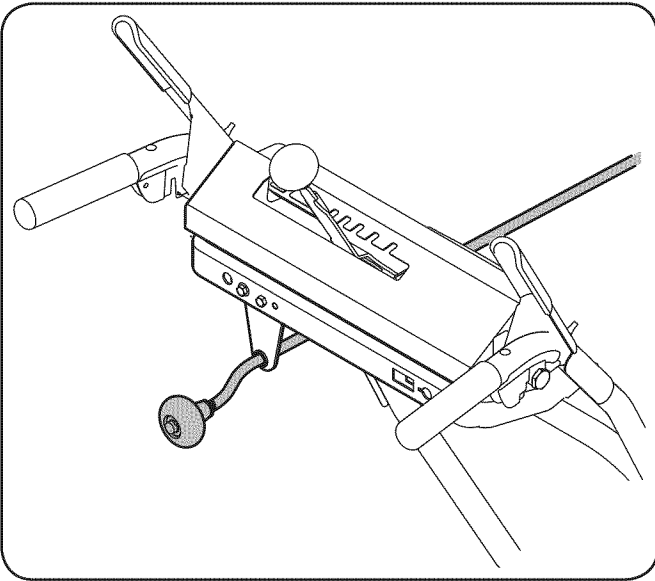

Figure 3-5
4. Insert the chute directional control rod into the support bracket on the rear of the dash panel. See Fig. 3-5.